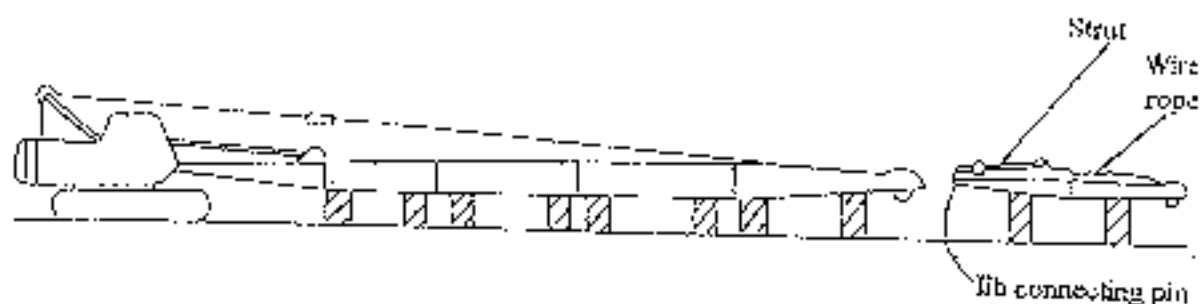

Fig. 16
1). Combine the strut with the jib, put the jib on wood blocks and support the jib at the same level of the boom (refer to Fig. 16).